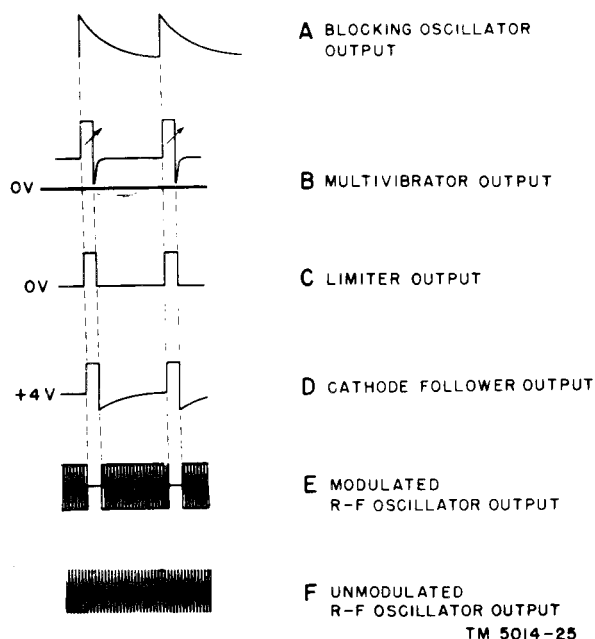

Figure 2. Test Set TS-538(\*)/U, voltage waveforms and time relationships.
a. *Blocking Oscillator V1.* The blocking oscillator produces positive pulses which are used to trigger multivibrator V2 (A, fig. 2). The pulse repetition rate of the oscillator can be varied from 5 to 200 pulses per second by the REPETITION RATE control. The blocking oscillator is turned ON and OFF by MODULATION switch S1.
b. *Multivibrator V2.* The multivibrator is a flip-flop circuit having one stable and one unstable condition of conductivity. The multivibrator remains in the stable condition until a trigger pulse from the blocking oscillator switches it to the unstable condition. The multivibrator recovers its stable condition after several microseconds (normally adjusted to 45 microseconds). This action produces an output pulse which is rectangular shaped with a negative-going spike (B, fig. 2).
c. *Limiter CR1.* The limiter removes the negative-going spike from the multivibrator pulse and establishes a 0-volt direct-current (dc) reference level (C, fig. 2).
of the limiter output, with very little loss of multivibrator pulse voltage, to the impedance of the rf oscillator input, which is a relatively low impedance load (D, fig. 2).
e. *Rf Oscillator V4.* The rf oscillator is a pencil-type triode connected in a coaxial-line cavity which produces rf oscillations. The oscillator is tunable through the range of 1,630 megacycles (mc) to 1,730 mc (1,615 mc to 1,715 mc in the TS-538C/U). The rf output may be either continuous wave (cw) (F, fig. 2) or interrupted continuous wave (icw) (E, fig. 2), depending on the position of MODULATION switch S1. When the output is icw, the duration of the interruption is adjusted to 45 microseconds (*b* above) and the repetition rate is adjustable from 5 to 200 pulses per second (*a* above).
d. The inductance of T1 and the circuit capacity are such that the tube tends to oscillate at a frequency of 2 megacycles during the conducting period. Capacitor C1A and resistor R1 form a decoupling filter to keep rf voltage from the power supply. When the tube conducts, the voltage at the cathode rises sharply because C3 can charge rapidly through the low plate resistance of V1. However, when the tube is cut off, the cathode voltage cannot fall rapidly because C3 must discharge through the large resistance of R5. The resulting waveform of the output voltage taken from the cathode of V1 is shown in A, figure 2.
e. During the time that V2B is cut off, its plate voltage is high. The output taken from this plate is, therefore, in the form of a positive rectangular pulse for each pulse from the blocking oscillator (A, fig. 2). The sharp negative spike immediately following the positive pulse is a result of a temporary high plate current in V2B when C5 charges. The charging current